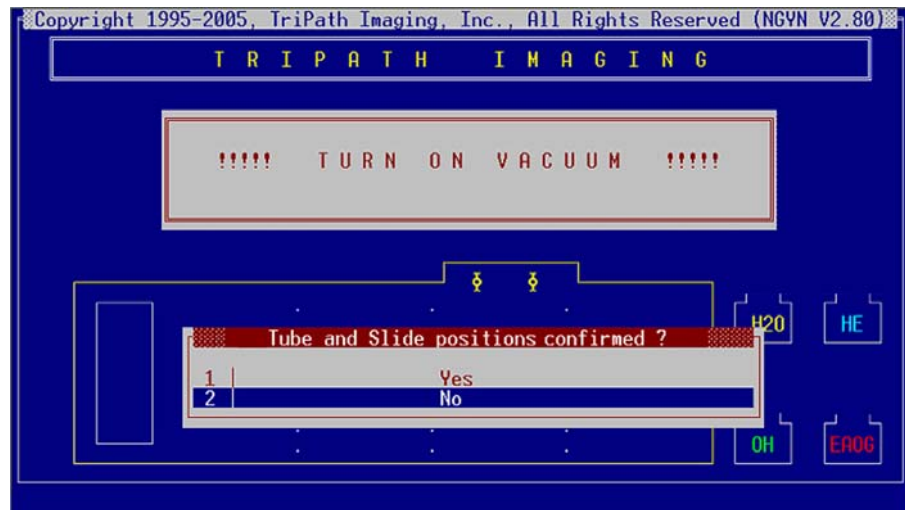

Figure 3-4 Turn on Vacuum screen
10. The Turn on Vacuum screen (illustrated in *Figure 3-4*) is displayed.